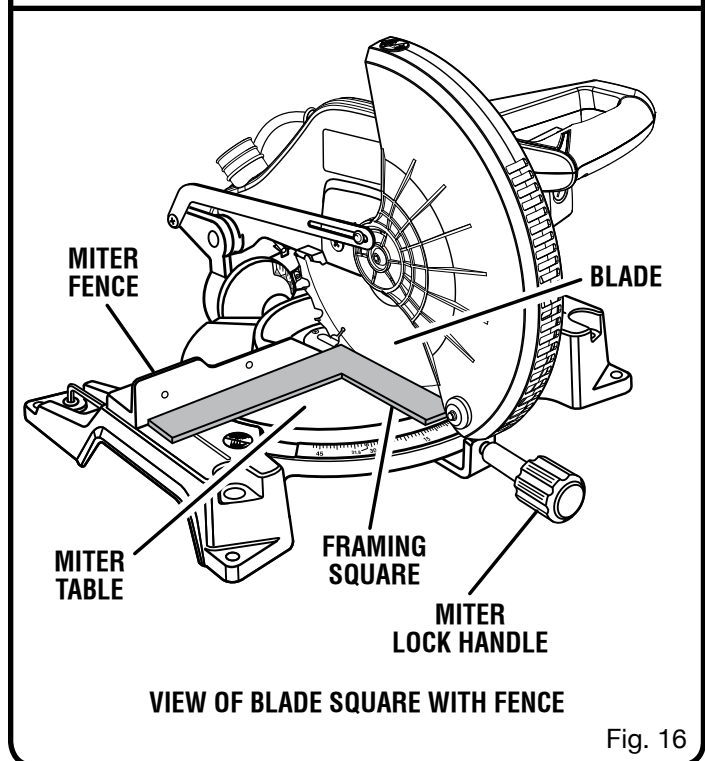

Fig. 16
- The edge of the square and the saw blade should be parallel as shown in figure 16.